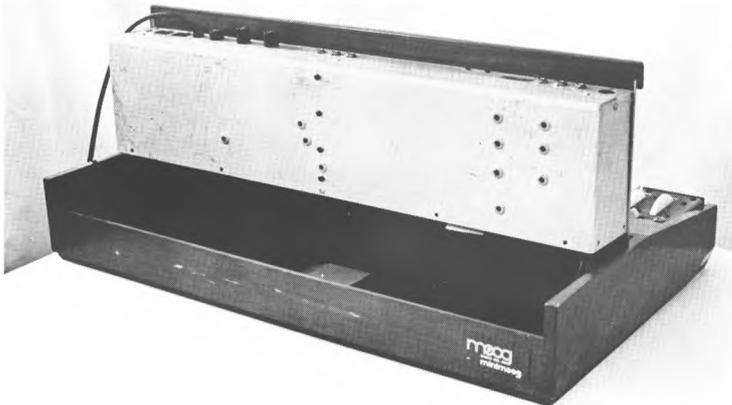

Figure 1
1) Remove the rear panel. There are 18 Phillips head screws holding the rear panel in place: 5 along the top, 5 along the bottom, and 4 on each end. See figures 1 and 2. Once the cover is removed, you will not be able to use the Mini's device which props up the electronics box, so it would probably be helpful at this point to look around your workbench for something to set under the chassis to prop it up in as vertical a position as possible.